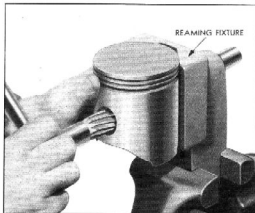

Fig. 4—Reaming Piston Pin Bushings
4. Hold the piston in the V-block of the fixture with one hand and turn the reamer handle with the other hand until the reamer has passed through both bushings as shown in Fig. 4.